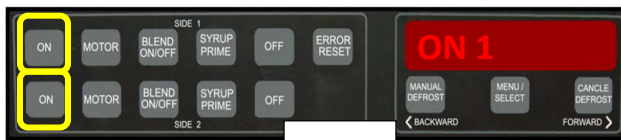

Fig. 6
1. Open merchandiser up to access the units display. Select the “ON” option for each (Fig. 6), the words “ON 1” and “ON 2” will Alternate along with a friendly message